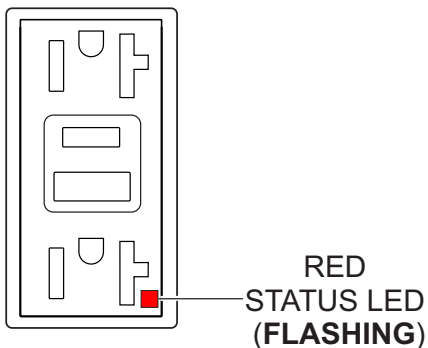

Figure 56. GFCI Receptacle (Red Flashing LED)
6. If the status LED (Figure 56) is **flashing (RED)**, **DO NOT** use the GFCI receptacle. Replace it immediately.